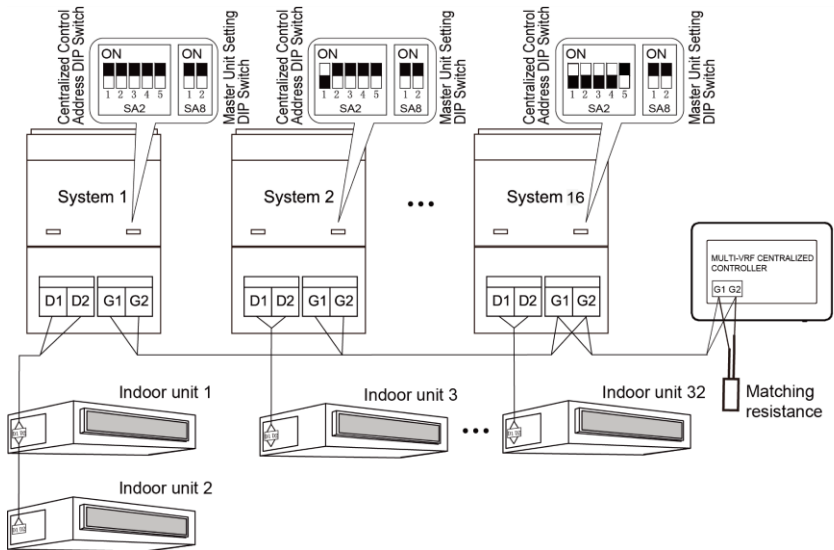
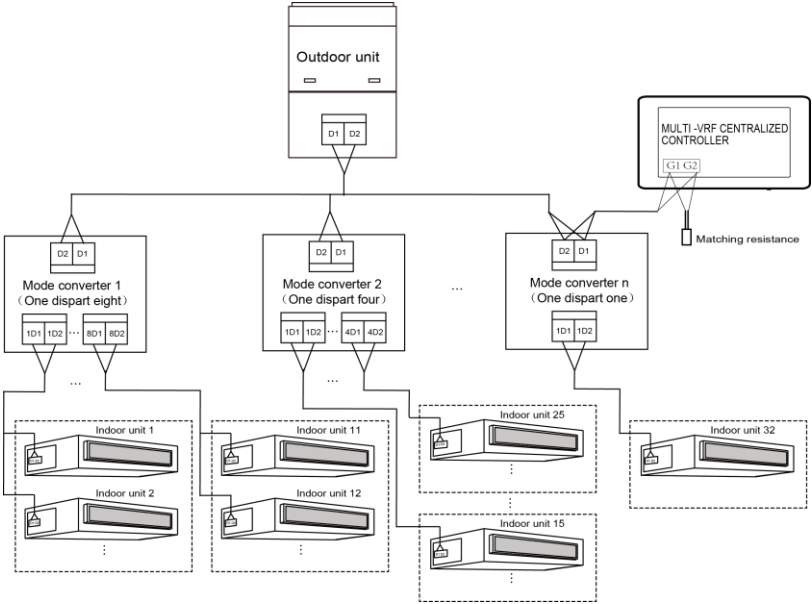

Fig.3.5 Centralized Controller Connected with Outdoor Network
Fig. 3.6 Centralized Controller Connected with Heat Recollection Mode Converter Network
- ③ If the centralized controller is to be connected with the network of outdoor units, connect according to fig.3.5. The centralized controller can only be connected with the terminal system of the outdoor network. A matching resistance needs to be added with the communication cords at the G1 and G2 ports.
- ④ The centralized control address DIP switch (SA2_Addr-CC) indicates the centralized control address required when different refrigerating systems are controlled in a centralized manner. The default factory setting is "00000".
- ⑤ If the centralized controller is to be connected with the network of heat recollection, connect according to Fig. 3.6. The method 2 is also applicable to centralized controller switching in heat recollection network.